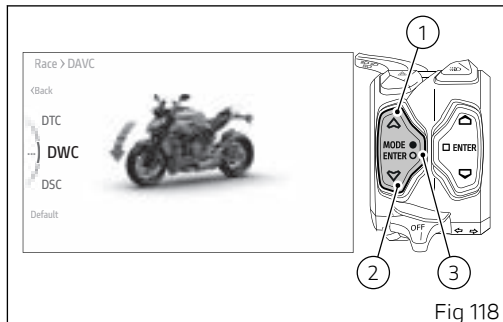

Fig 118
- Select the "Riding Mode" item and press ENTER (3).
- Select the Riding Mode you wish to customise and press ENTER (3).
- Select the "DAVC" item and press ENTER (3).
- Select the "DWC" (Fig 118) item and press ENTER (3).